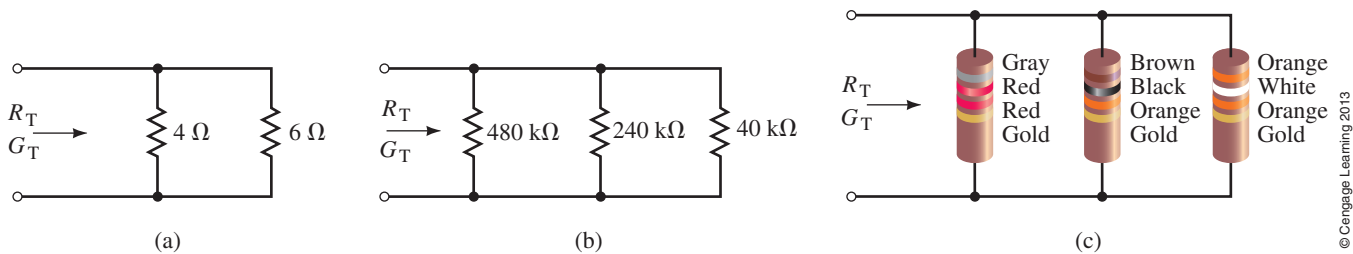

FIGURE 6-54
11. Calculate the total conductance and total resistance of each of the networks shown in Figure 6-54.